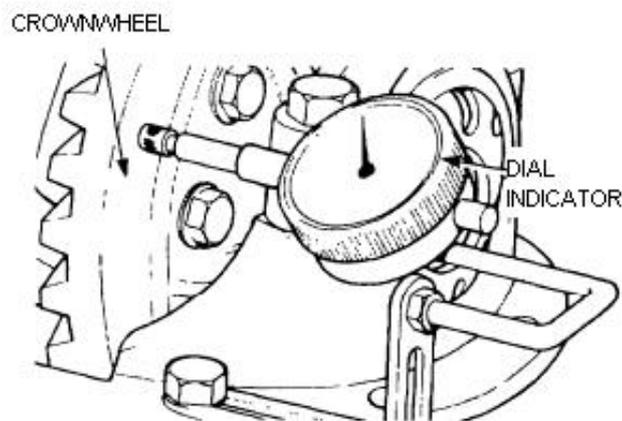

Figure 238 Checking the Crown Wheel Run-out
- i.** Mount the dial indicator (Table 3, Serial 57) on the differential carrier flange. Rotate the differential and measure the crown wheel run-out (Figure 238), which should not exceed 0.10 mm (0.004 in).